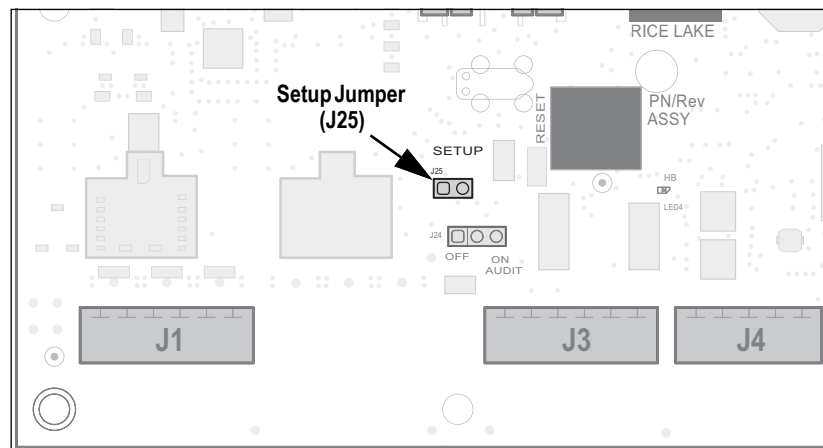

Figure 4-1. Setup Jumper Location on CPU Board
1. Access setup mode via the setup jumper (Figure 4-1 on page 27). $CONF, U$ displays.